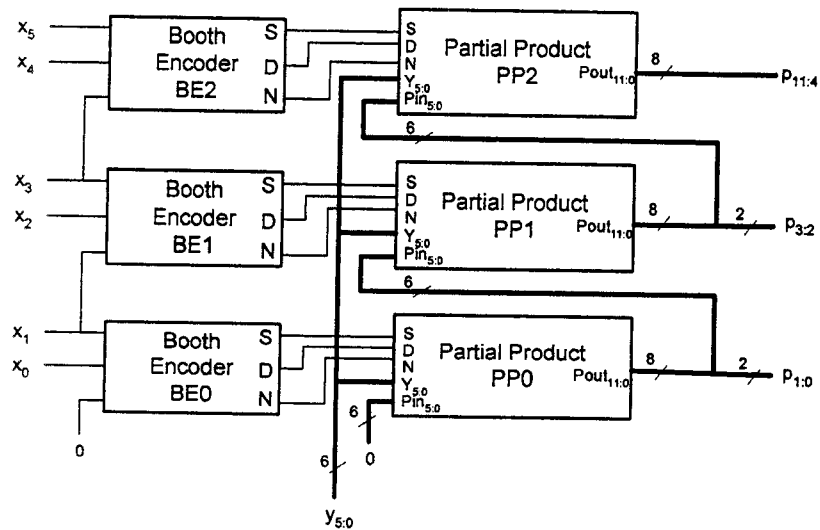

Figure 3.1
Figure 3.1 shows a block diagram of a modified Booth encoded parallel multiplier for $N=6$ with 3 identical stages. Each stage consists of two modules: the Booth encoder module (BE) and the partial product module (PP). The BE module takes three bits from the multiplier x and performs modified Booth encoding. The PP module calculates $y \times 2^{2j} (-2x_{2j+1} + x_{2j} + x_{2j-1})$ for a particular value of j and adds it to the cumulative total.